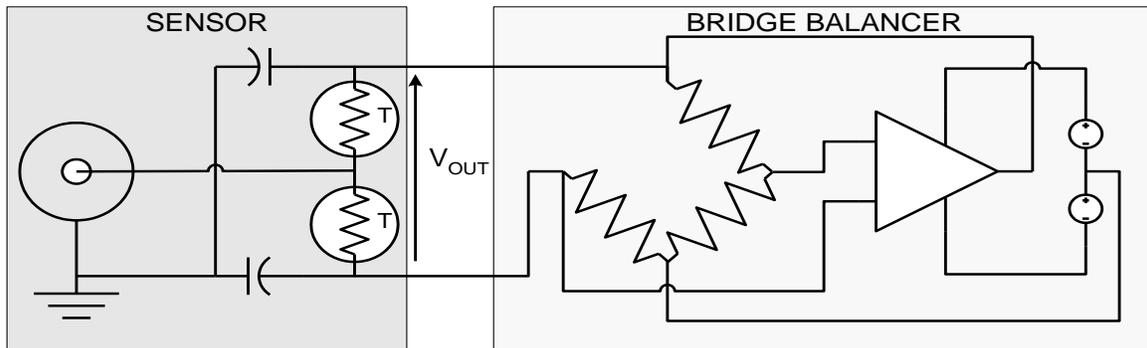

Figure 1 - Thermistor Mount and Bridge Balancing with the 1830A
Figure 1 shows how a DC bridge circuit maintains series resistance of two thermistors at the nominal bridge resistance, typically 200 Ω . The thermistors (T) are matched so each thermistor is biased at 100 Ω . The thermistors are in parallel for the RF signal path, since each are biased at 100 Ω the pair make a good 50 Ω termination.